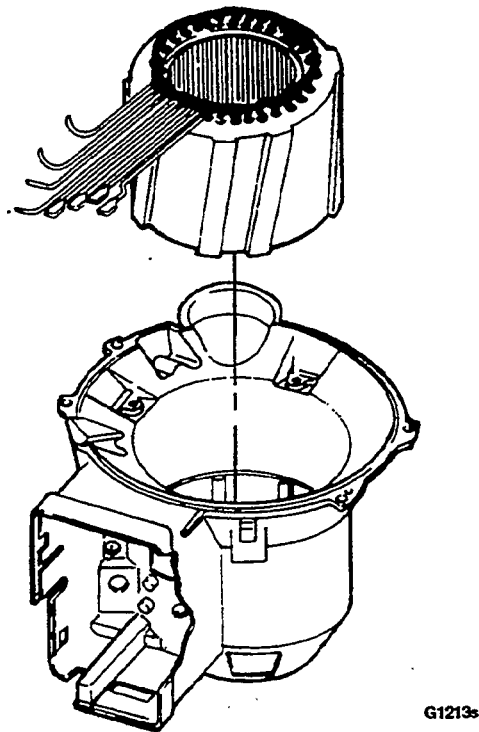

FIGURE 8-6. STATOR/HOUSING DISASSEMBLY
22. Remove the stator from the stator housing as follows (see Figure 8-6):
1. Install the stator in its housing as follows (see Figure 8-6).